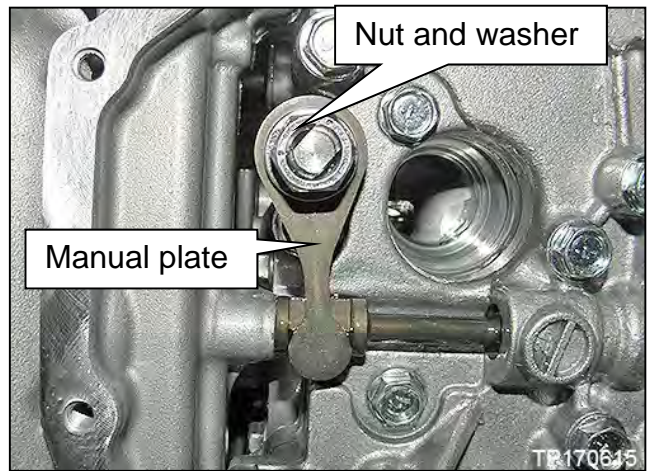

Figure 24
11. Remove the nut and washer, and then remove the manual plate shown in Figure 24.